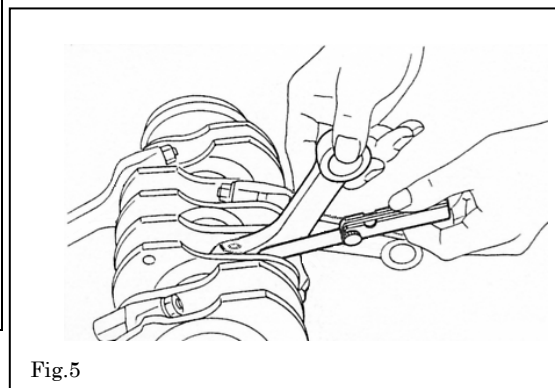

Fig.5
3.7 Measure the thrust clearance with a thickness gauge. (See figure 5.)